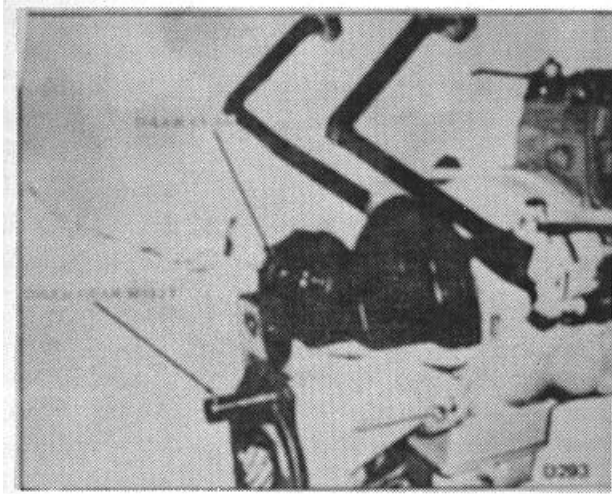

Figure 16.
7. Remove the engine and transmission. Remove the keeper retaining the idler gear shaft. Pull the shaft and lift the gear out of the case. (Fig. 16)